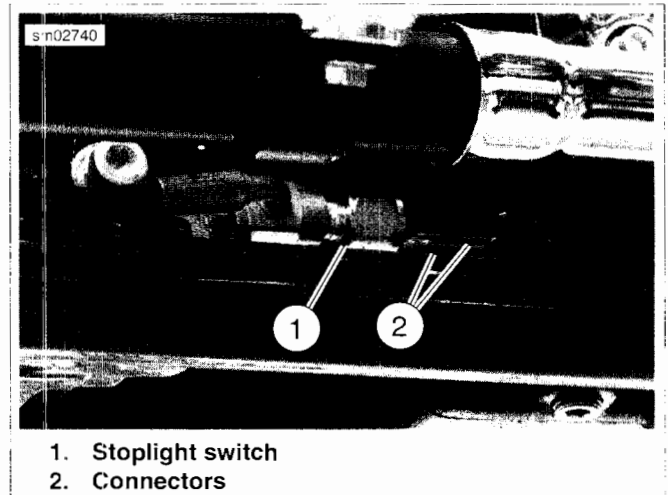

Figure 7-81. Rear Stoplight Switch
See Figure 7-81. The rear stoplight switch monitors brake fluid pressure in the rear brake line. When pressure in the line reaches a preset level, the rear stoplight switch is tripped and illuminates the tail light/stoplight.
1. See Figure 7-81. Remove both connectors (2) from rear stoplight switch (1).
2. See Figure 7-81. Install rear stoplight switch (1). Tighten switch to 12-15 ft-lbs (16.3-20.3 Nm).
3. Install both switch connectors (2).